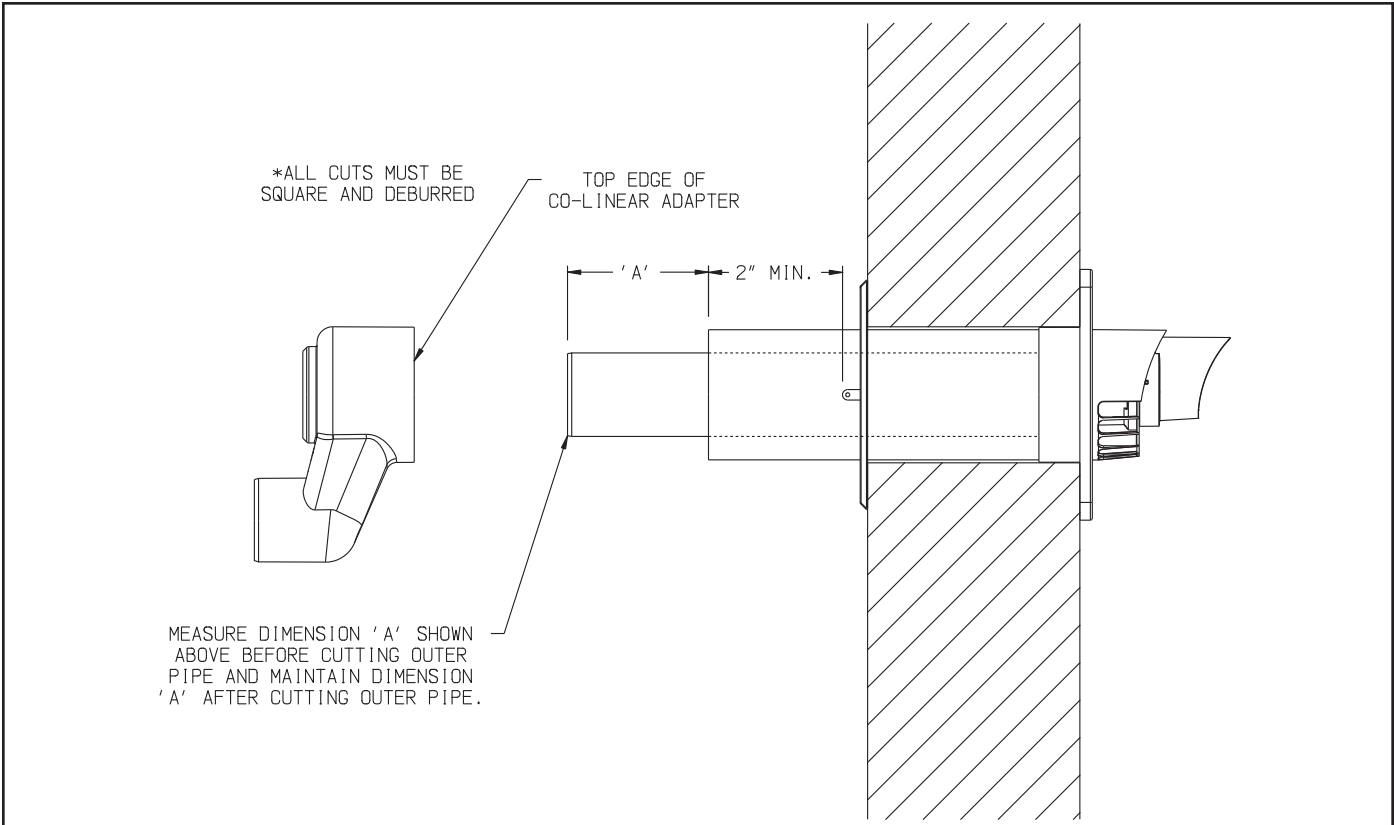

FIGURE 7.29: CUTTING DURAVENT POLYPRO HORIZONTAL CONCENTRIC VENT TERMINAL
- If desired, the terminal can be shortened. Mark the desired location of the cut on the outer pipe no closer than 2" from the edge of the tab on the interior wall plate. Prior to cutting outer pipe measure dimension 'A' of the inner pipe as shown in Figure 7.29 and maintain this dimension after cutting the outer pipe. All cuts must be square and de-burred.